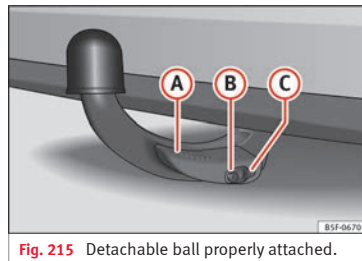

Fig. 215 Detachable ball properly attached.
- Lever (A) » Fig. 215 is fully raised.
- The release bolt (B) » Fig. 215 is sticking fully out (the red and green part is visible).
- Cover (C) » Fig. 215 is placed over the lock.